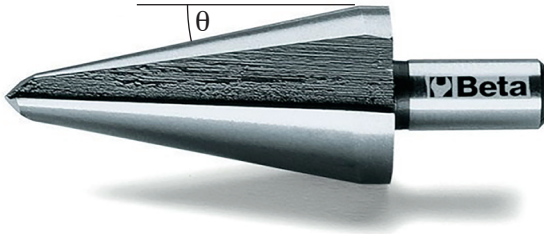

Fig. 2.1
- 2 (a) Fig. 2.1 shows a conical drill bit.